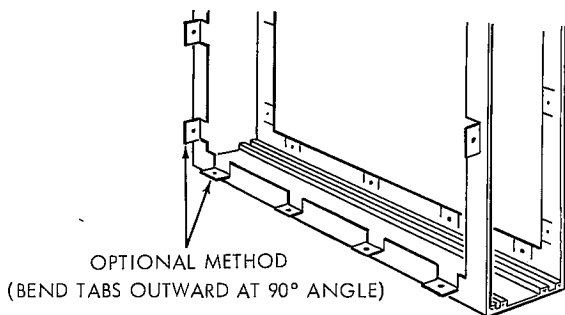

Figure 15
**NOTE:** An optional method of attaching ductwork to cabinet is to modify the cabinet (figure 15) by bending the tabs outward at a 90° angle and attaching ductwork to tabs.